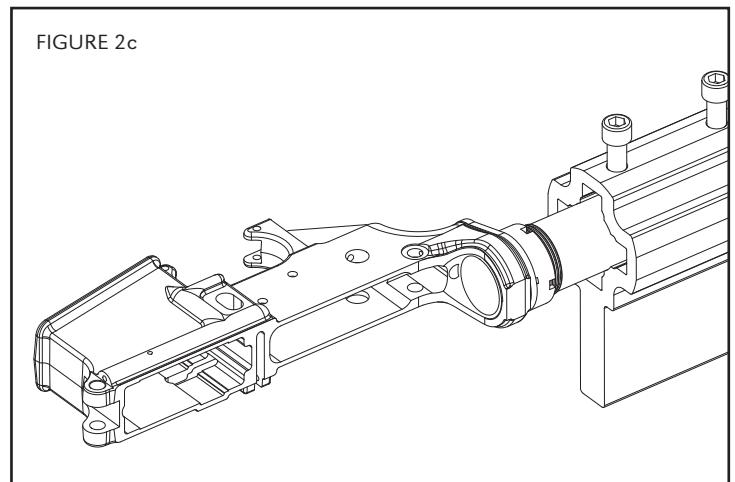

FIGURE 2c
- c. **The 9 O'clock Position:** Removing and installing takedown pins and magazine release (FIGURE 2c).